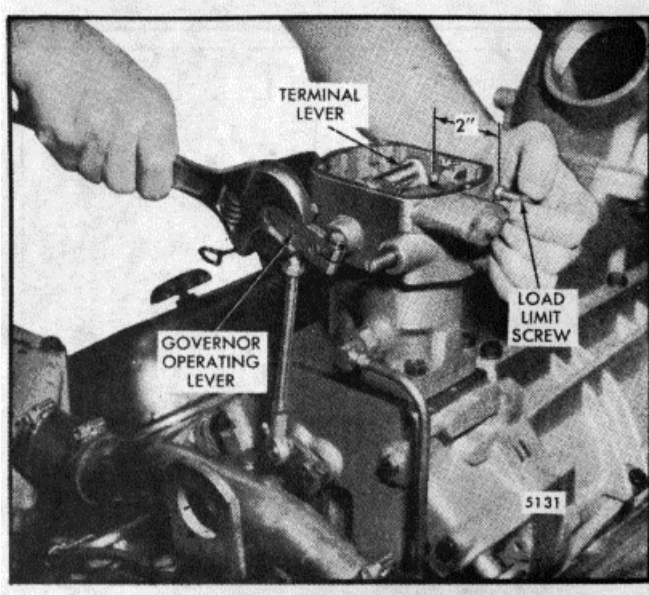

Fig. 7. - Adjusting Load Limit Screw
19. With the load limit screw backed all the way out, retain the governor operating lever in the full-fuel position. The governor terminal lever should touch the boss in the governor housing (Fig. 7). Adjust the vertical link so that all of the injector racks are in the full-fuel position, then tighten the rod end locknuts securely.
1. Loosen the load limit screw locknut and adjust the load limit screw to obtain a distance of approximately 2" from the outside face of the boss on the governor sub-cap to the end of the screw. Then place and retain the governor operating lever in the full-fuel position as shown in Fig. 7.